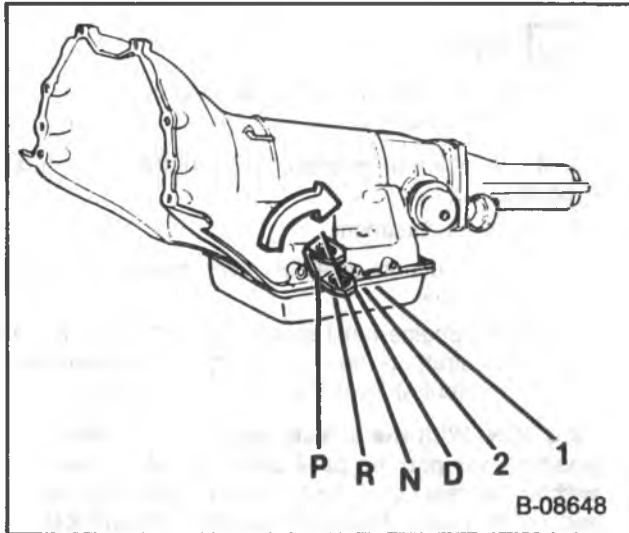

Figure 71 — Shift Positions
1. Loosen the screw (342) or the nut (336), as used.
- Move the shift lever (A) to the forward position, then back to the second detent. (Figure 71.)
4. Hold the rod (340) tightly in the swivel (332).